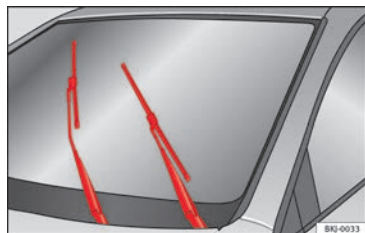

Fig. 88 Wipers in service position.
- Turn the ignition on and off and then (with-in approximately 9 seconds) push the windscreen wiper lever down (short wipe). The windscreen wipers will move to the service position »» Fig. 88.